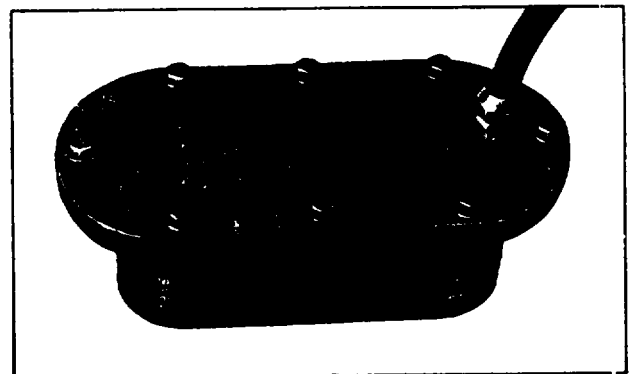

Fig. 2. Preparing Oil Cooler Core for Pressure Test
1. Make a suitable plate and attach it to the flanged side of the cooler core. Use a gasket made from rubber to assure a tight seal. Drill and tap the plate to permit an air hose fitting to be attached at the inlet side of the core (Fig. 2).